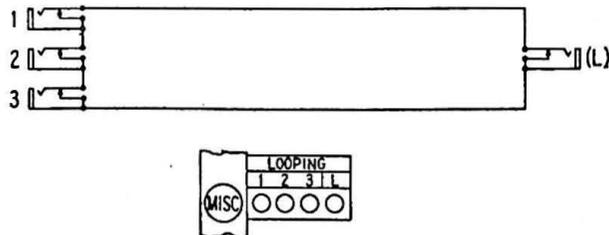

Fig. 9.—Circuit, jack arrangement designation of "looping" jacks.
3.23 The circuit connections of the jacks are shown in Fig. 9.